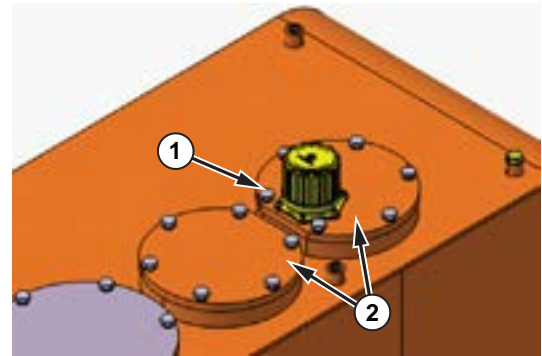

Figure 10
A. Remove bolts (1, Figure 10) (6 ea) with cover (2) on oil tank, drain hydraulic oil using oil pump.